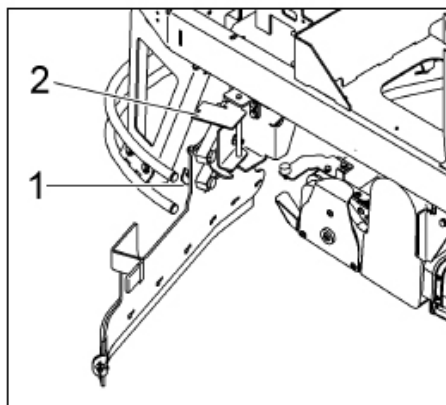

Figure 14 - Squeegee in Waiting Position
4. Hinge locking hook (Figure 14/1) into position (Figure 14/2).